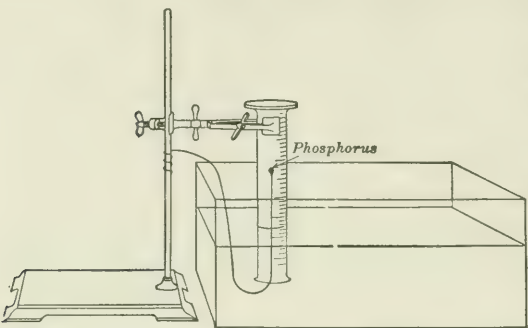

Fig. 38. Burning the oxygen out of air with phosphorus.
c. A piece of ordinary (white) phosphorus should now be stuck on the end of a piece of copper wire (under water) and the wire carrying the phosphorus should be pushed up into the air space in the cylinder and allowed to stand overnight. It is well to arrange the apparatus (Fig. 38) so that the phosphorus does not touch the sides of the tube and stands well up toward the top of the cylinder.